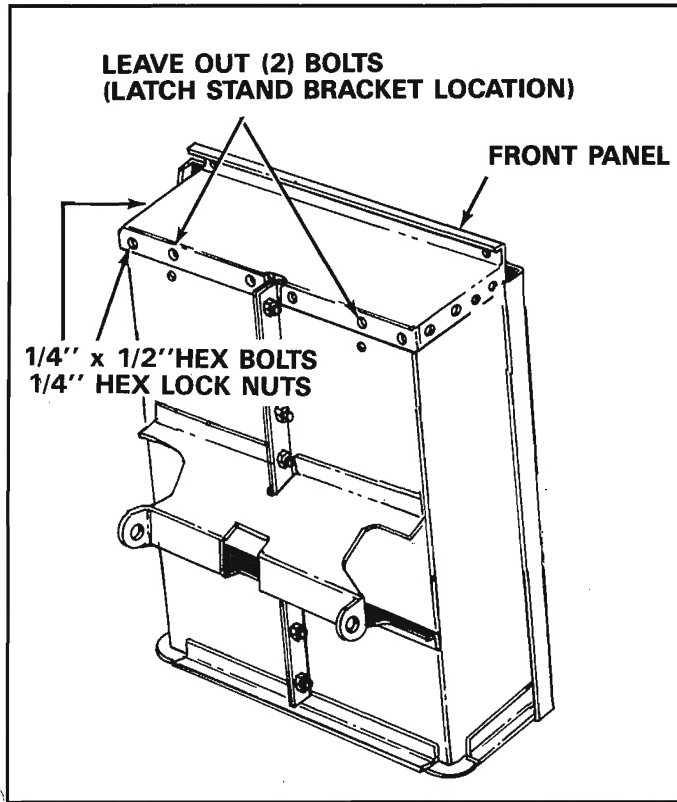

FIGURE 6
11. Assemble front panel to open end of cart body, using 1/4" x 1/2" hex bolts and 1/4" hex lock nuts. Bolt heads to inside of cart. Leave out (2) bolts for latch stand bracket. See figure 6.